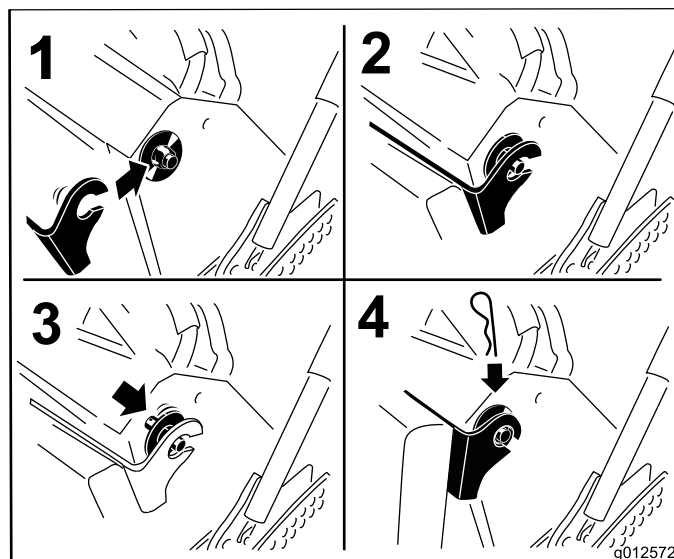

Figure 34
6. Raise the cushion and slide it onto the pins on both sides of the machine (Figure 34).
7. Slide the large washers with plastic bushings into the cushion bracket and secure them with a hairpin cotter pin (Figure 34).